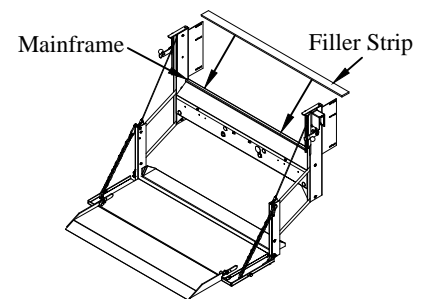

Figure 7: Filler strip location (Original Series).
1. **Weld** the supplied filler strip (12ga.x1-1/4"x58-1/2") to the top corner of the liftgate mainframe (Figure 7).